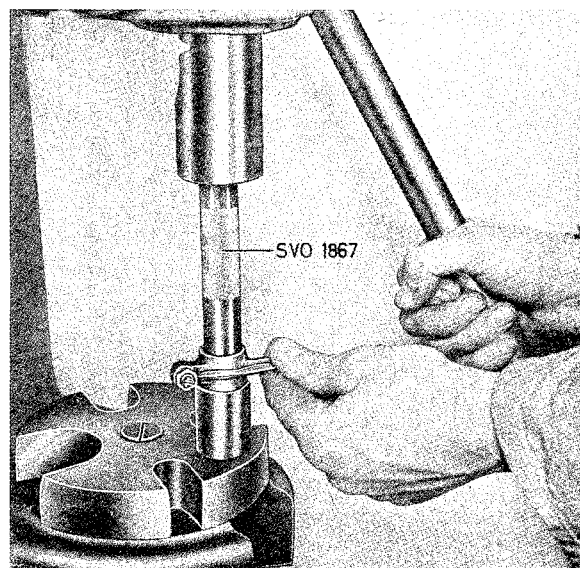

Fig. 2-20. Replacing bushing in rocker arm
1. If wear amounts to 0.1 mm (0.004") replace the rocker arm bushing. Use tool 1867 for pressing the bushing out and in, see Fig. 2-20. Then ream the bushing with a suitable reamer until an accurate fit on the shaft is obtained. The hole in the bushing should coincide with the hole in the rocker arm.